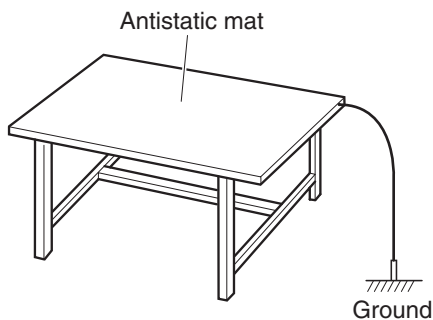

Fig. 1-2-1 Grounding Work Bench
(1) Grounding work bench (Fig. 1-2-1)